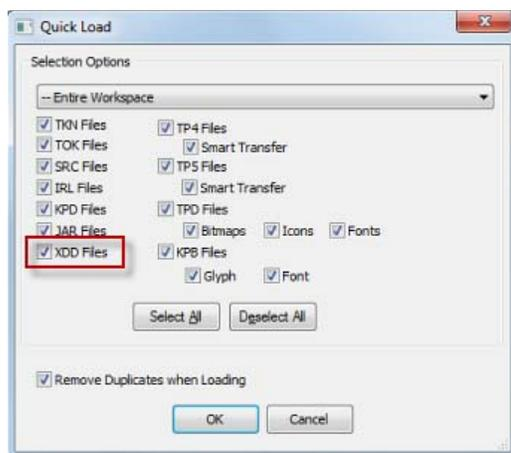

FIG. 109 Quick Load dialog with XDD Files selected
3. Click **Quick Load** to open the *Quick Load* dialog, and select **XDD Files** in the *Selection Options* (FIG. 109):